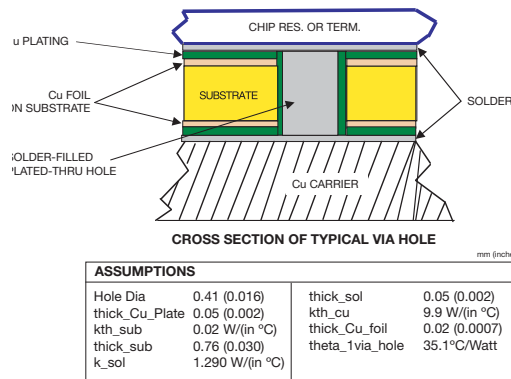

Figure 18: Via-hole cross section and parameters
**Via holes: See Figure 18. Structure – plated through with 2-mil copper, filled with Sn63 solder; Diameter = 16 mils; edge-to-edge spacing = 0.5 x diameter = 8 mils.** Notes – The minimum via hole diameter is generally a function of board thickness and is related to “walking” or breaking of the drill bit. The maximum via hole diameter relates to the ability to wick up solder to the via’s full length. Different PC board fabricators will have different design rules that apply.